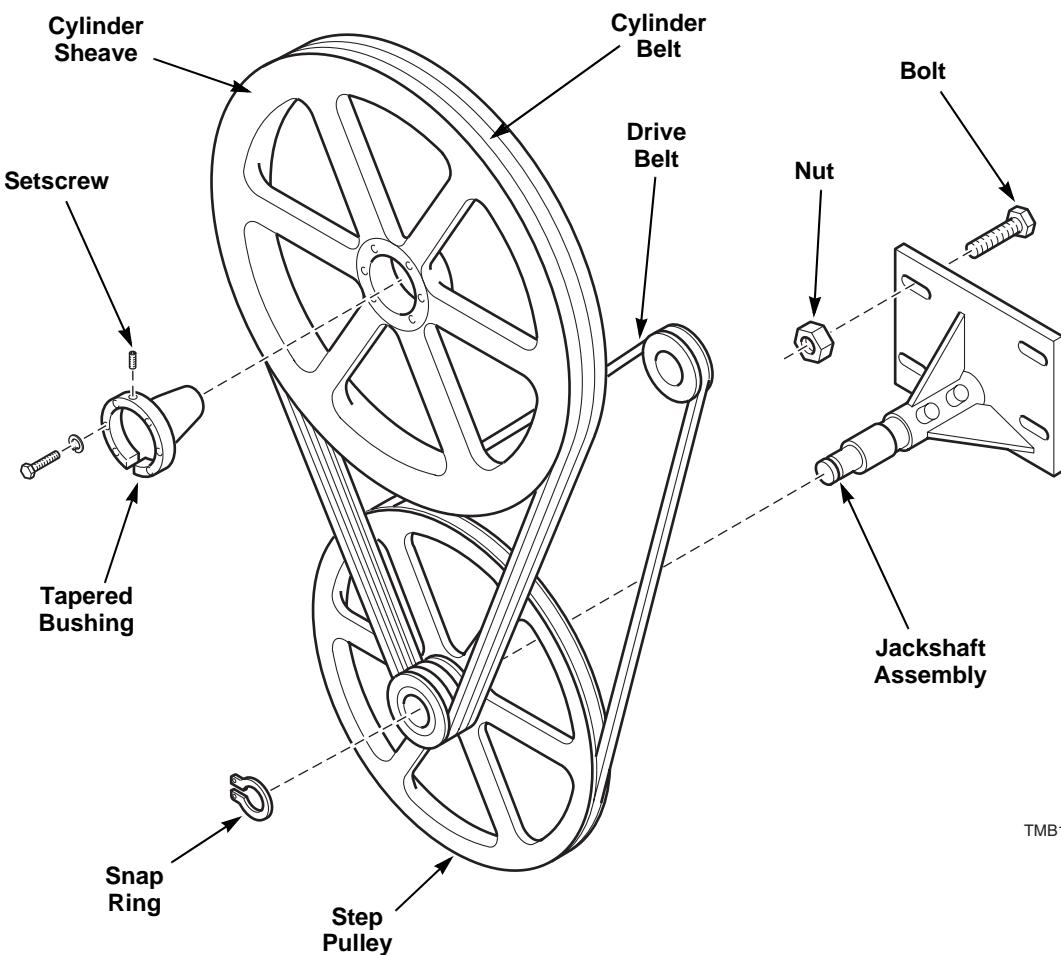

Figure 15
Refer to *Figure 15*.
- c. Loosen the four jackshaft assembly attaching nuts. Refer to *Figure 15*.
- g. Remove drive belt. Refer to *Figure 15*.